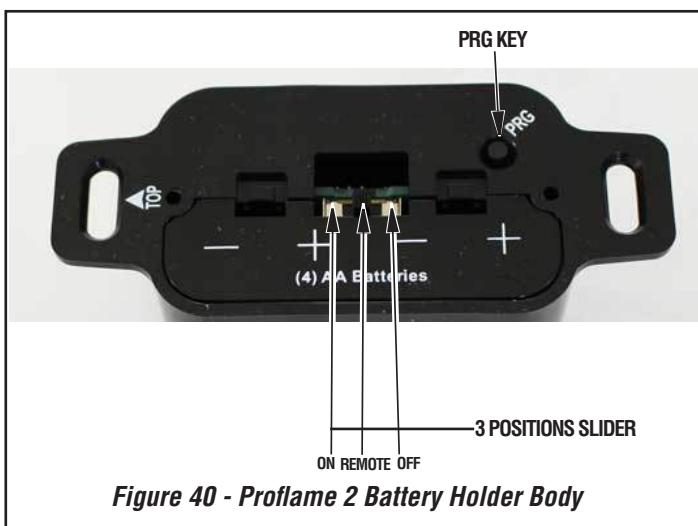

Figure 40 - Proflame 2 Battery Holder Body
Install the 4 AA batteries in the Proflame 2 battery holder battery bay. **Note:** the polarity of the battery and insert into battery bay as indicated on the cover (+/-). Place the 3 position slider switch in the "Remote" position. (**Figure 40**) insert the end of a paper clip or similar object into the hole marked "PGR" on the receiver front cover (**Figure 40**). The receiver will beep three (3) times to indicate that it is ready to synchronize with a Remote control. Install the 3 AAA type batteries in the Remote control battery bay, located on the base of the Remote control and push the On button. The receiver will "beep" four times to indicate the Remote control's command is accepted and set to the particular code of that Remote control. The system is now initialized.